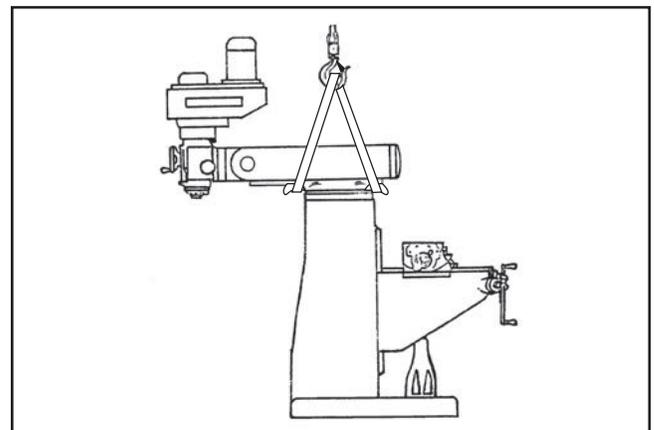

Figure 10. Using lifting straps to move the mill.
1. Swivel the head 180°, as shown in **Figure 10**, and lock it in place (refer to **Ram Movement** on **Page 34** for detailed instructions).
2. Place the lifting straps under the ram, as shown in **Figure 10**. Place padding between the straps and the mill to protect the ram ways.